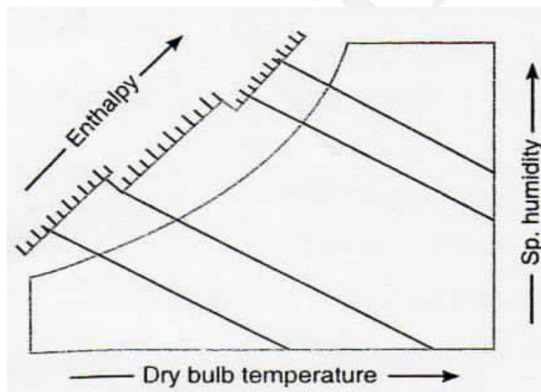

Fig. 11. Enthalpy lines.
5. **Enthalpy (total heat) lines.** The enthalpy (or total heat) lines are inclined straight lines and uniformly spaced as shown in Fig.11. These lines are parallel to the wet bulb temperature lines, and are drawn up to the saturation curve. Some of these lines coincide with the wet bulb temperature lines also.